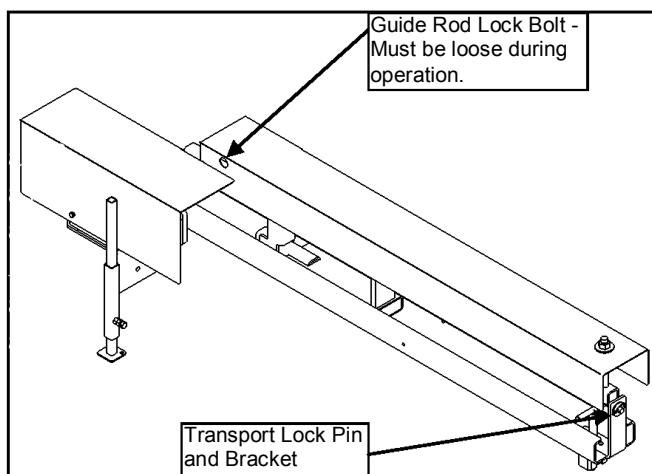

FIGURE 3
3. Slide the sampler towards the center of the pickup box until the pin is inserted in the transport lock bracket. Secure the sampler in the transport position with washer and hairpin. **(Figure 3)**
1. Fully retract cylinder and tighten guide rod lock bolt. **(Figure 3)**